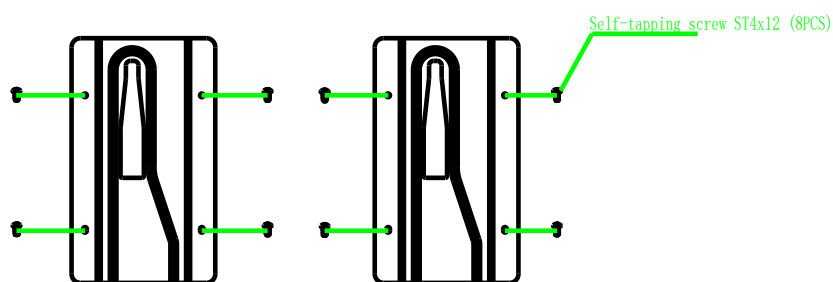

Fig.2
b) Installation of supporting seat, as shown in Fig.2.